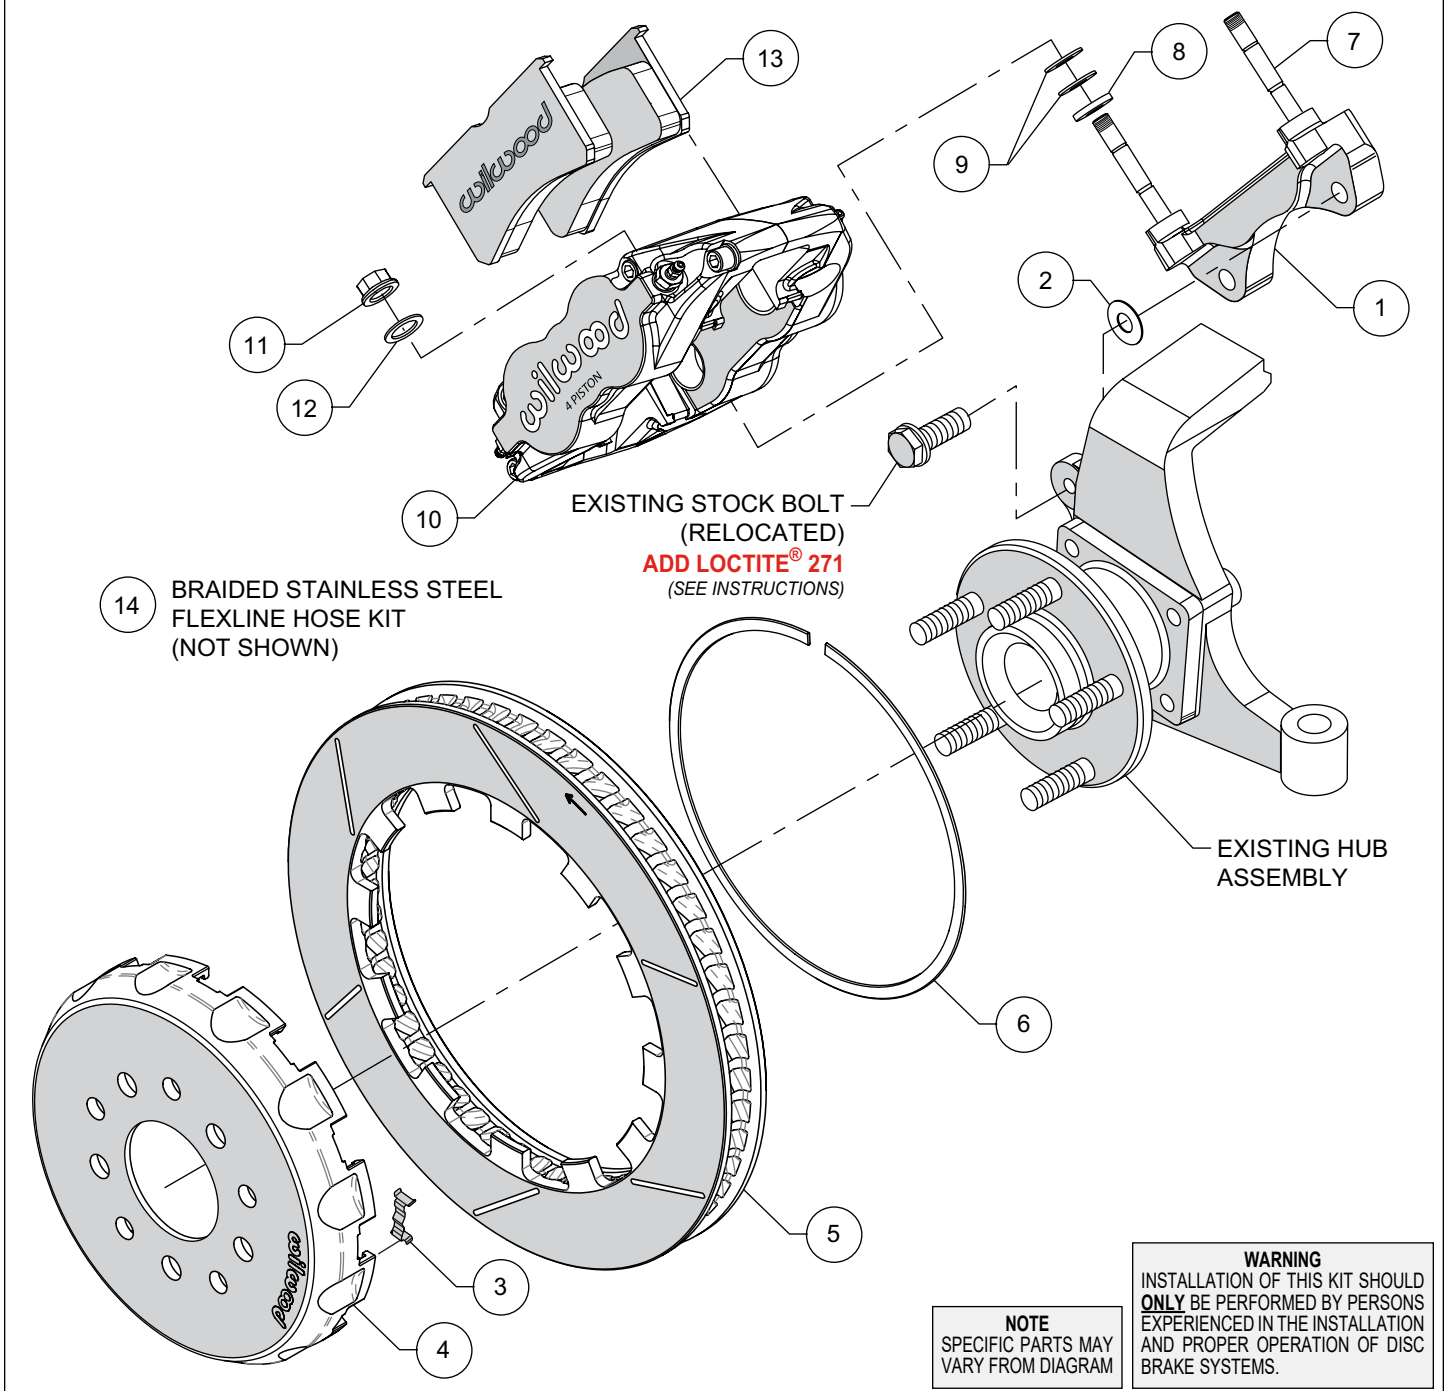

Figure 1. Typical Installation Configuration
NOTE: Numbers in parenthesis refer to the parts list and Figure 1 on the preceding pages.
- The caliper mount bracket (1) should initially be installed with clean, dry threads on the mounting bolts. Orient the bracket as shown in Figure 1 and Photo 1. Install using OEM bolts. Initially place one .033 thick shim (2) on each bolt between the bracket and upright, Figure 1. Temporarily tighten the mounting bolts.
- Insert the dynamic mount wear clips (3) into the slots in the hat (4), Photo 2. Orient the rotor (5) as shown in Figure 1 and Photo 3, with the flush side of mount lugs facing the hat. Secure the rotor to the hat using the snap ring (6) by simultaneously pushing down on the rotor and installing the ring into the groove in the hat, as shown in Photo 4. Carefully inspect snap ring to ensure complete engagement in the groove.
•**NOTE:** This kit contains distinct right and left hand calipers that must be mounted in a specific direction, as described below. Initially place one .062" thick spacer (8) and two .035" thick shims (9) on each stud (7) as shown in Figure 1 and Photo 6. Mount the caliper (10) onto the bracket (1) using lock nuts (11) and washers (12), Figure 1. Ensure that the caliper is mounted so that the largest pistons are at the rotor exit end of the caliper, in relation to the forward rotation of the rotor. Temporarily tighten the lock nuts and view the rotor through the top opening of the caliper. The rotor should be centered in the caliper, Photo 7. If not, adjust by adding or subtracting shims (2) between the bracket and the upright. Always use the same amount of shims on each of the two mounting bolts. Once the caliper alignment is correct, remove the bracket mounting bolts one at a time, apply red *Loctite*® 271 to the threads, and torque to 60 ft-lb.